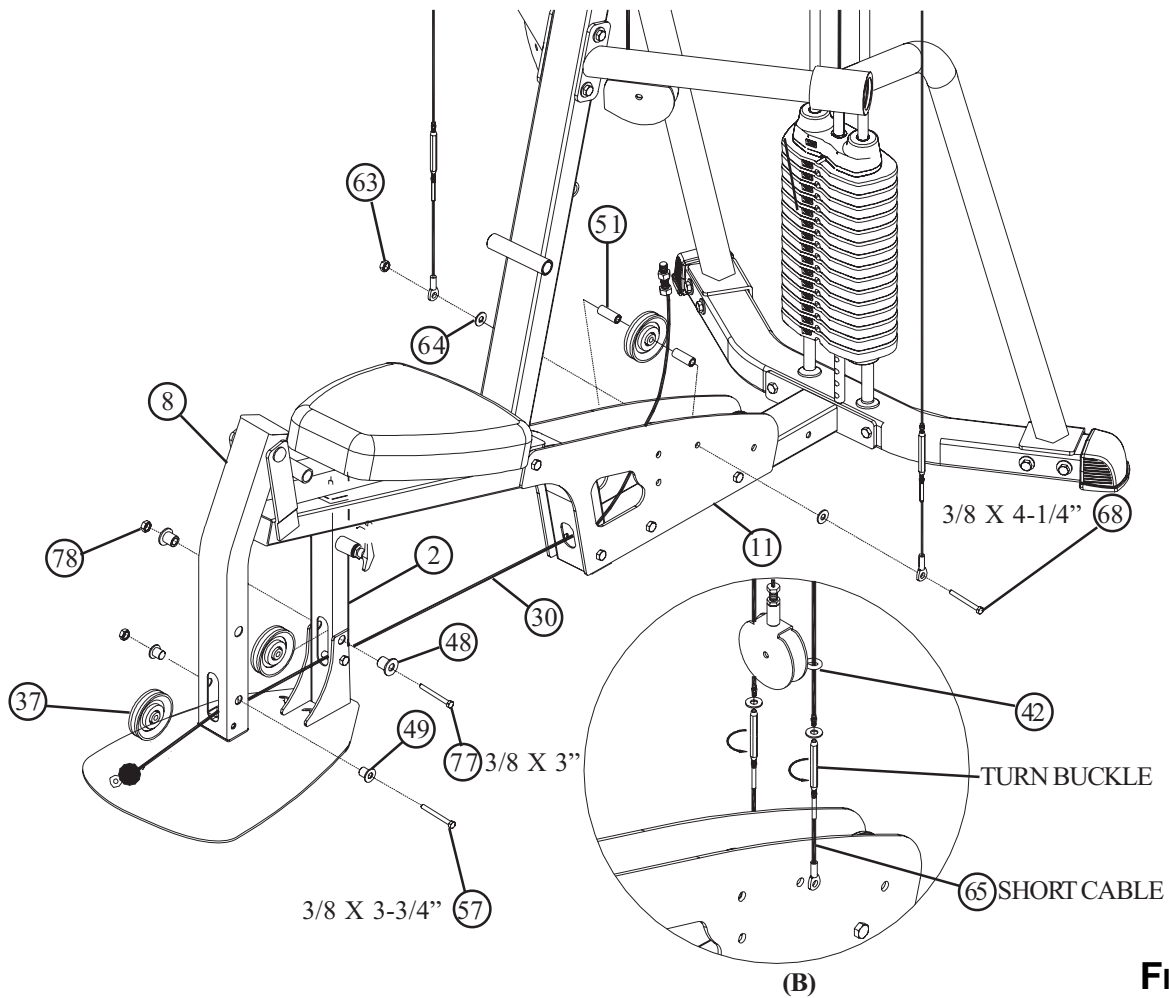
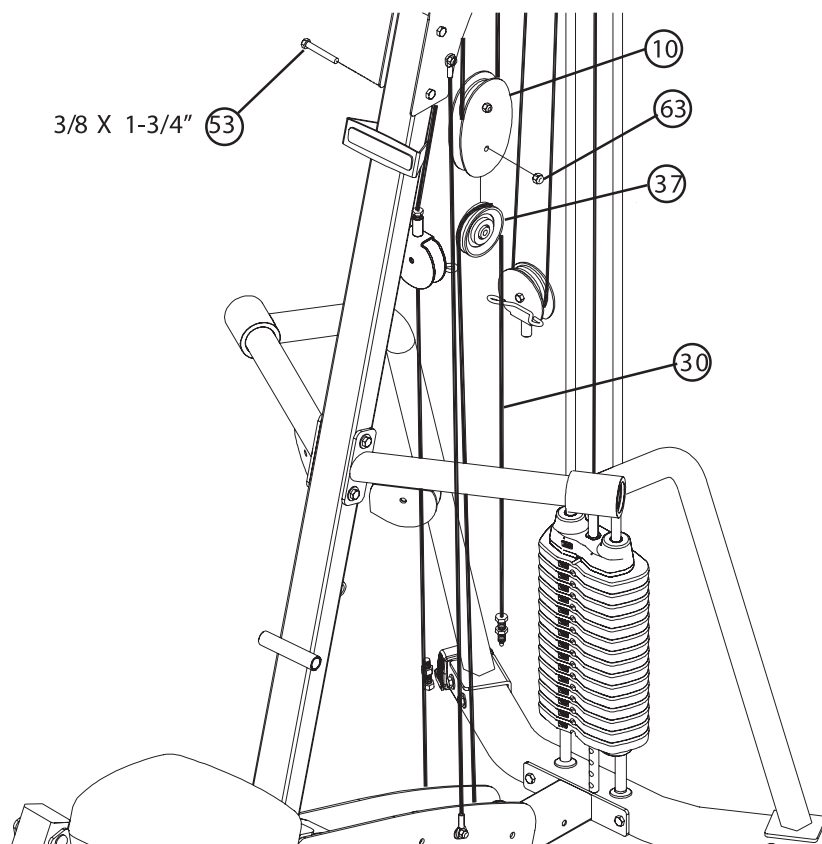

FIGURE 13
FIGURE 14
- Securely assemble the ball end of the LEG CABLE (30) and one 3-1/2" PULLEY (37) to the LEG PEDESTAL (8), using one 3/8 x 3-3/4" BOLT (57), two 3/8 x 1-1/16" FLANGE SPACERS (49), and one 3/8" SILVER LOCK NUT (63).
- Securely assemble one 3-1/2" PULLEY (37) to the FRONT BASE (1), using one 3/8 x 3" CLEAR ZINC BOLT (67), two 3/8 x 3/4" FLANGE SPACERS (48) and one 3/8" BLACK LOCK NUT (78).
NOTE: The LEG CABLE (30) must be routed over the retaining bolt as shown in Figure 13.
- Carefully slide the GUIDE CABLES (65) through the GUIDE BRACKET (42) as shown in Figure 13 (B).
- Reassemble the ends of the GUIDE CABLES (65) as shown in Figure 13 (B) by attaching the Short Cables and Turnbuckles that were removed in Step 11 (D).
- Assemble one 3-1/2" PULLEY (37) to the BASE PLATES (11), using one 3/8 x 4-1/4" SILVER BOLT (68), two 3/8" FLAT WASHERS (64), two GUIDE CABLES (65), two 3/8 x 1" SPACERS (51) and one 3/8" SILVER LOCK NUT (63).
NOTE: Loop the LEG CABLE (30) around the 3-1/2" PULLEY (37) before attaching it to the BASE PLATES (11), as shown in Figure 13.
- Adjust the Turnbuckle on each GUIDE CABLE (65) to add tension to the GUIDE CABLES (65) until they are taut. Secure Turnbuckle with the Jam Nuts as seen in Figure 13 (B).
- Securely assemble one 3-1/2" PULLEY (37) to the PULLEY PLATES (10), using one 3/8 x 1-3/4" BOLT (53) and one 3/8" SILVER LOCK NUT (63).
NOTE: Loop the LEG CABLE (30) over the PULLEY (37) before assembling the PULLEY PLATES (10) as shown in Figure 14.